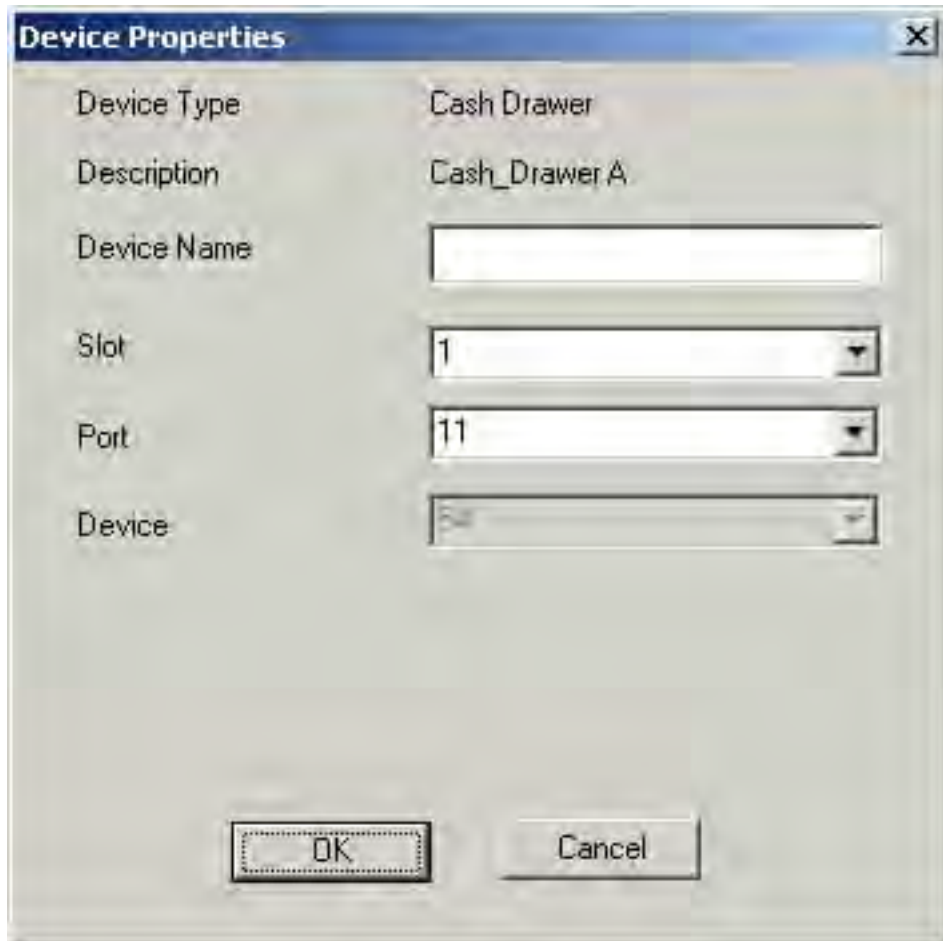
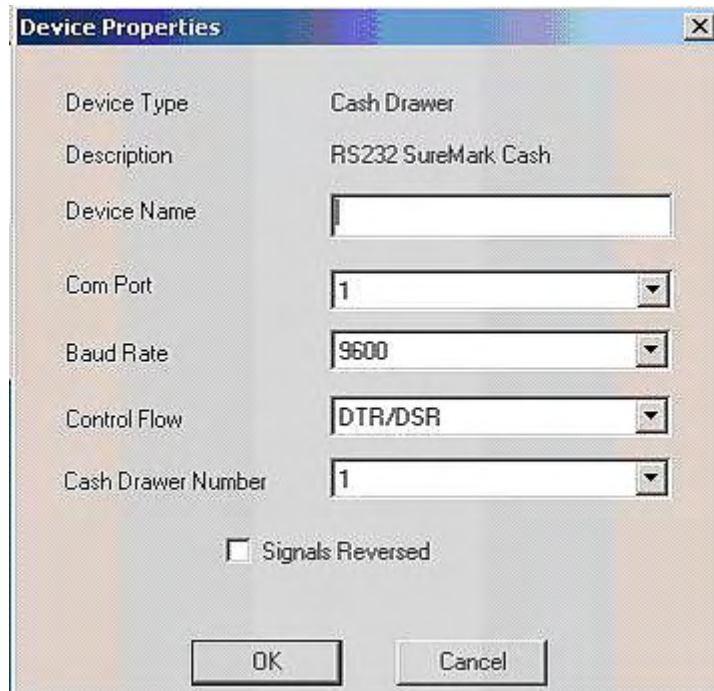

Figure 4. Device properties dialog (RS-485/USB)
Figure 5. Device properties dialog (EIA-232)
2. Click the **Configure** button to display the configuration dialog for the selected device. The dialog differs depending on the POS Terminal type and the device type. Figure 4 on page 18 shows the configuration dialog for an RS-485 or USB device; Figure 5 on page 19 shows the configuration dialog for an EIA-232 device.
4. For USB, RS-485, and System devices, select the correct slot and port for the device (see Figure 4 on page 18). Slot can have the following values:
For EIA-232, select the correct Com Port, Baud Rate, and Flow Control for the device (See Figure 5 on page 19).